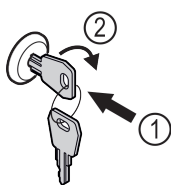

Fig. 191 Example illustration
- Insert key Fig. 191 (1).
- Turn key clockwise by 90° Fig. 191 (2).